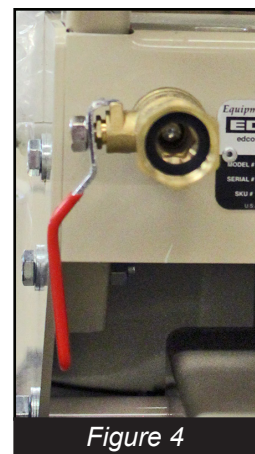

Figure 4
- In the wet grinding stage - water is fed from a standard garden hose into a ball valve cut off, then into a nozzle that sprays over the disc assembly. (Figure 4)